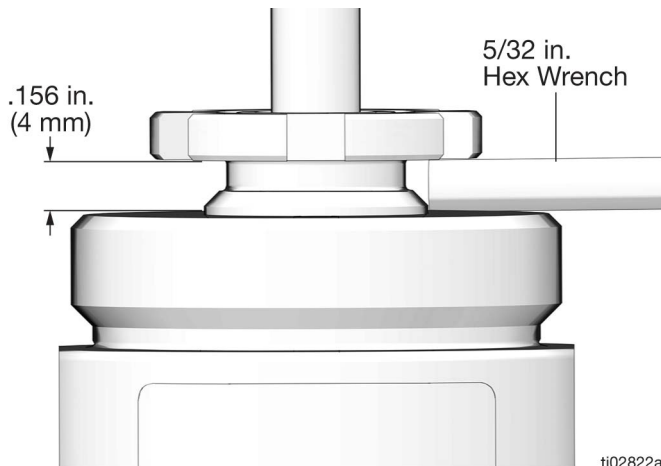

FIG. 15:
5. Reinstall the packing nut (210).
6. Set the height of the packing nut (210 with a hex key to .156 in. (4.0 mm) (FIG. 15).